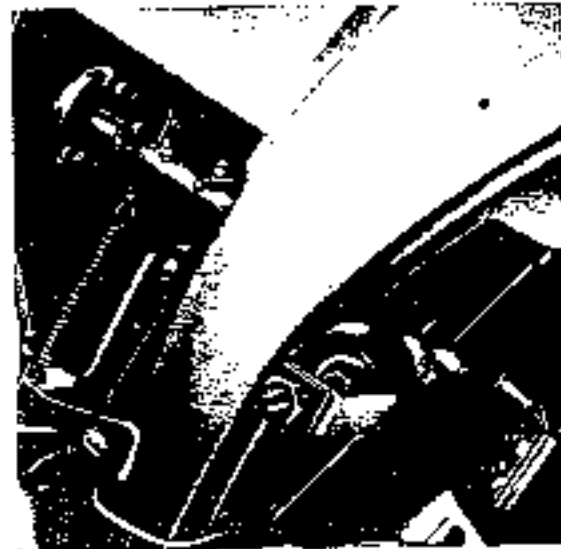

Fig. 29-5/3
8. Then unscrew the clamping screw (7) on the Flange (8) (see Fig. 29-5/1) and remove the pedal shaft toward the inside.